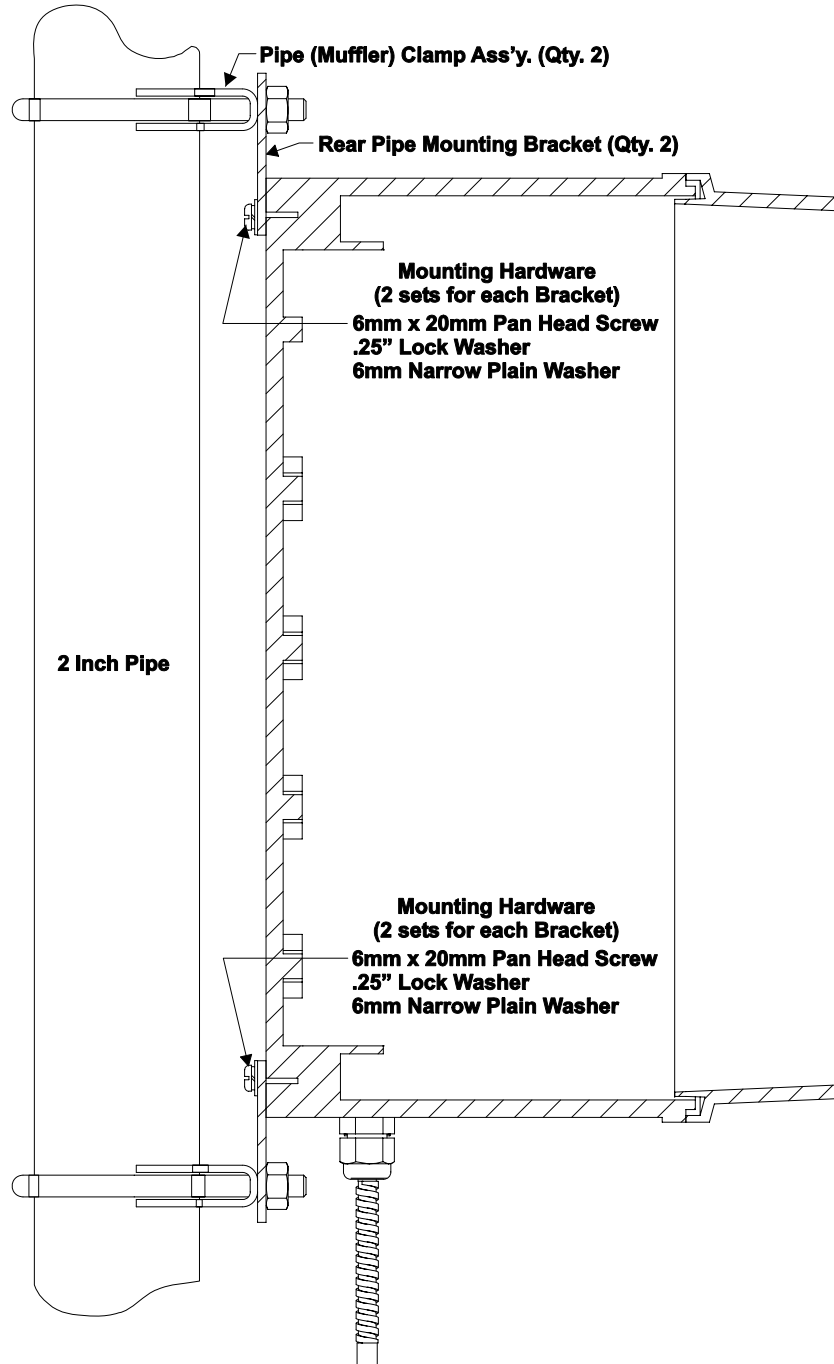

Figure 2-3 - Side View of ControlWave GFC-CL Mounted to a 2" Pipe
- The unit is to be positioned vertically with the Transducer (MVT or GPT) at its base. Only units equipped with a Multivariable Transducer may be mounted directly to the 'Main' (meter run) (utilizing a Process Manifold – see Figure 2-5) or they can be mounted remotely to a panel or wall or to a vertical 2" pipe (clamed at the rear of the unit via two clamps and four bolts – see Figures 2-3 and 2-6). Units equipped with a Gage Pressure Transducer can ONLY be mounted remotely to a panel or wall or to a vertical 2" pipe (clamed at the rear of the unit via two clamps and four bolts – see Figure 2-3). If used, the 2" pipe is to be anchored in cement (deep enough to conform to local building codes associated with frost considerations). The basic unit measures 11.73" in height by 9.08" in width by 7.44" in depth (without the mounting brackets). A